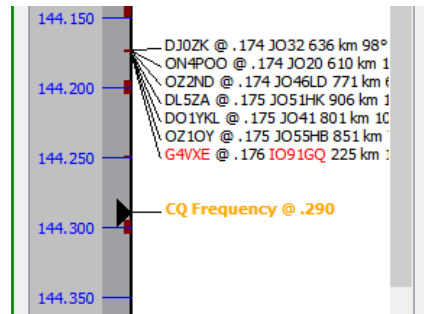

Figure 145 – Run frequency marker
- If operating in Run mode, the current Run frequency is marked on the display¹³⁵ as '**CQ Frequency**', with the fractional frequency appended (see Figure 145); the marker changes colour if the rig moves off the run frequency.